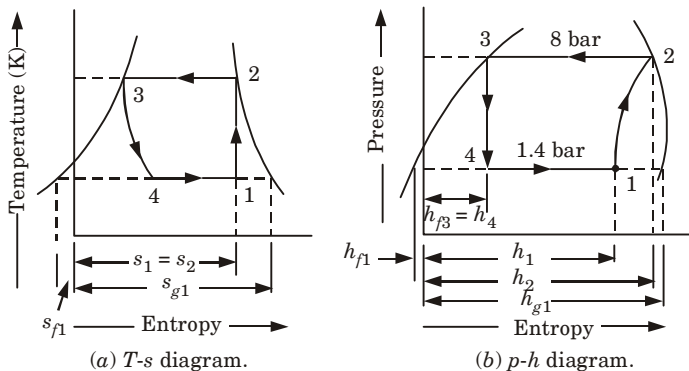

Fig. 15.
1. The *T-s* and *p-h* diagram are shown in Fig. 15(a) and Fig. 15(b) respectively.